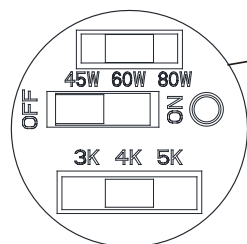
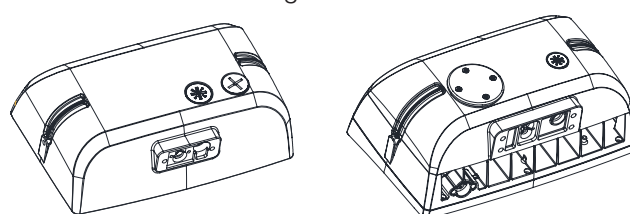

Figure 7.2
Figure 7.3
STEP 3: After adjusting the required control functions; (Figure 7.2), tighten the metal plug and plastic plug, by turning clockwise; (Figure 7.3).